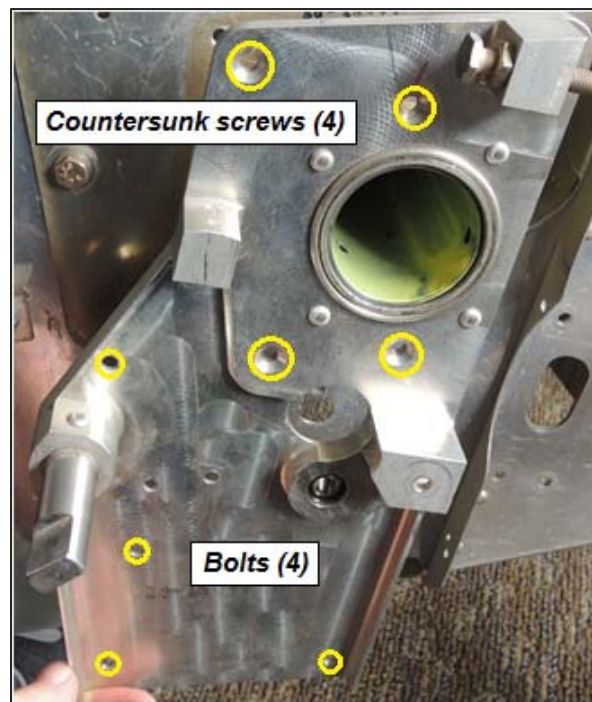
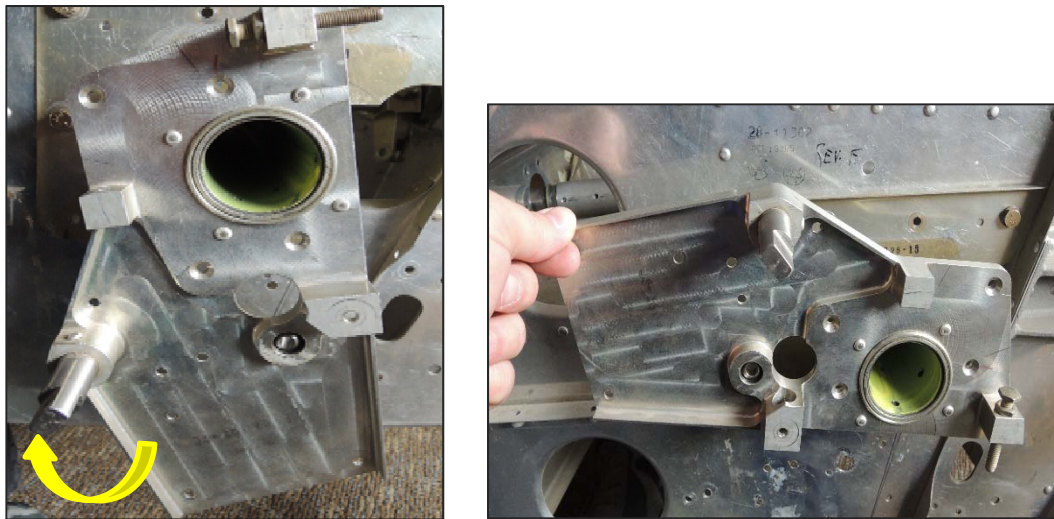

Figure 16. Mounting Plate Attachment Disassembly
Figure 17. Mounting Plate Pivot and Removal
6.3.23 Remove the four mounting bolts and the four countersunk mounting screws from the mounting plate (Figure 16).
6.3.24 Pivot the bottom of the mounting plate 90 degrees forward and remove (Figure 17).
- 6.4.7 Reinstall the mounting plate on the torque tube (Figure 17 and Figure 16).